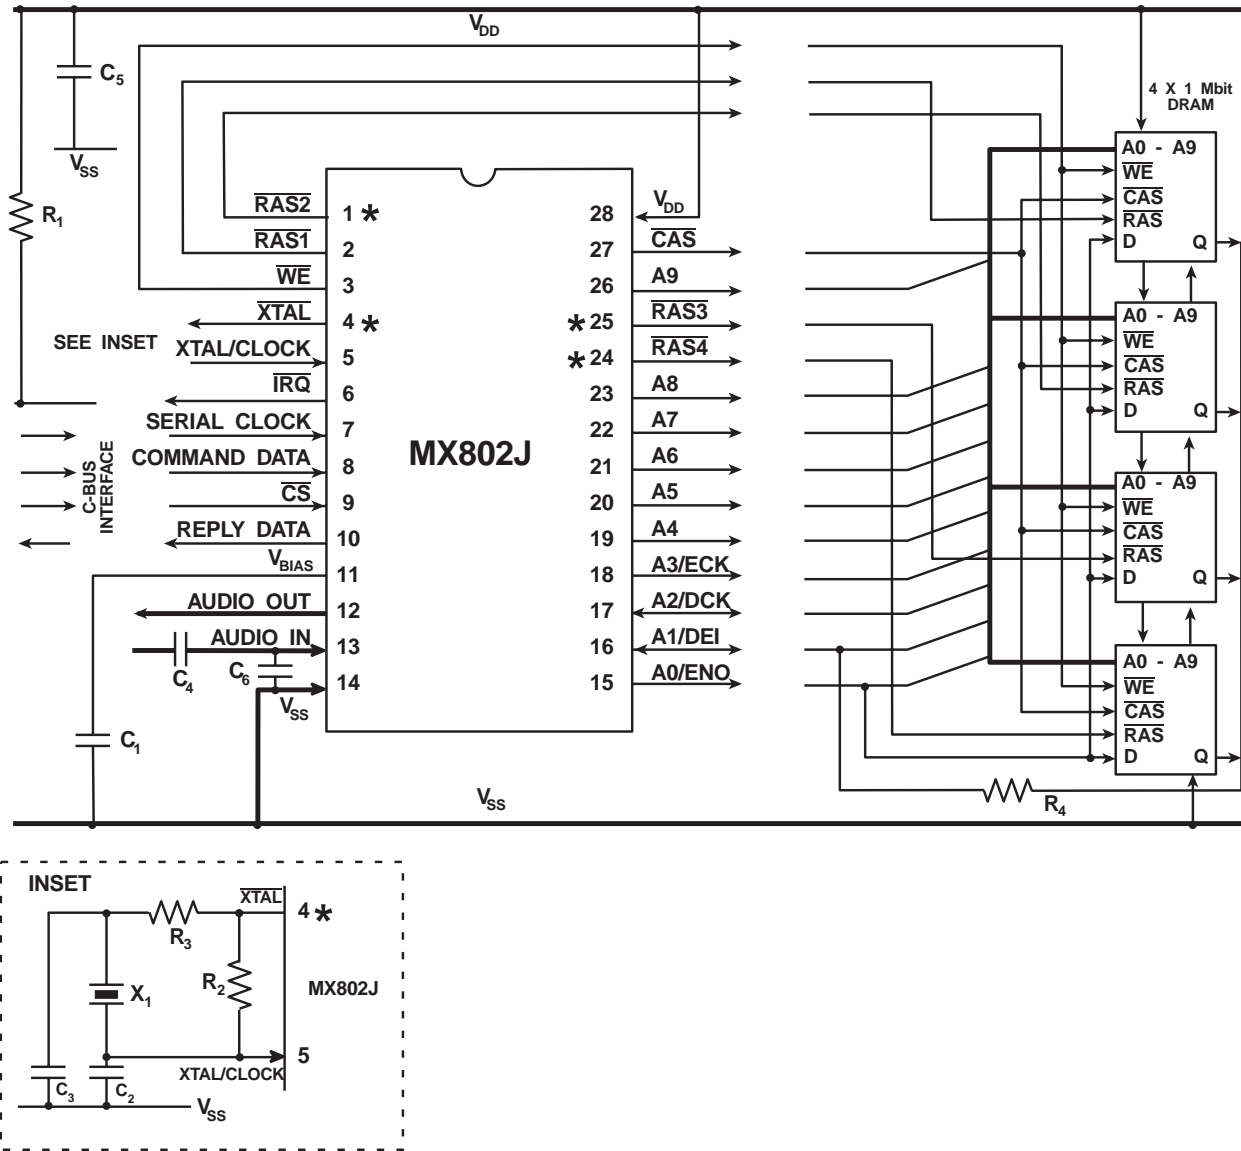

Figure 2: Recommended External Components
3. Functions whose pins are marked with an asterisk (*) in Figure 2 are not available on the 24-pin/lead versions of this device. Pin numbers illustrated are for 28-pin versions.
7. Figure 2 shows connections to 4x1 Mbit sections of DRAM. If desired, to simplify PCB layout, the DRAM inputs A0-A8 may be connected in any order to the MX802 DVSR Codec output pins A0-A8. Connections to 256kbit DRAM are similar, but A9 is left unconnected.